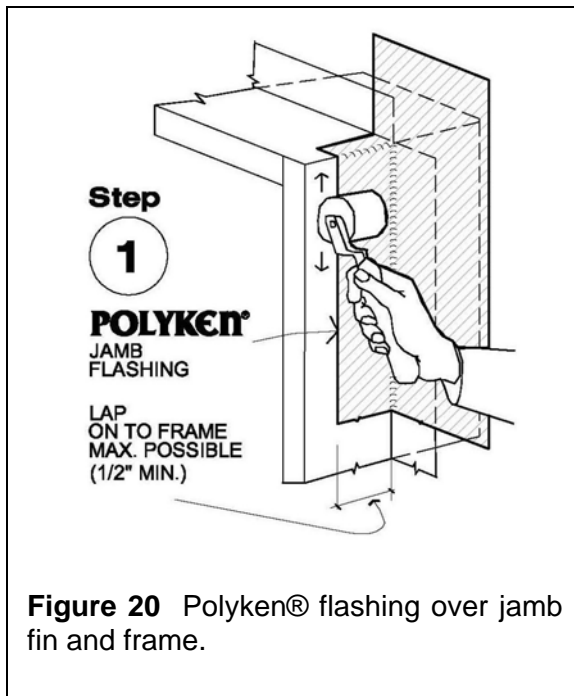

Figure 20 Polyken® flashing over jamb fin and frame.
Step 1. Apply flashing on the sides of frame and fin and roll for maximum adhesion. See Figure 20.